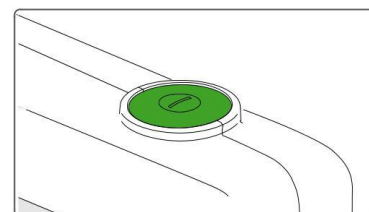

Figure 24. ON/OFF button
1. Press ON/OFF to turn the device on, see Figure 24.